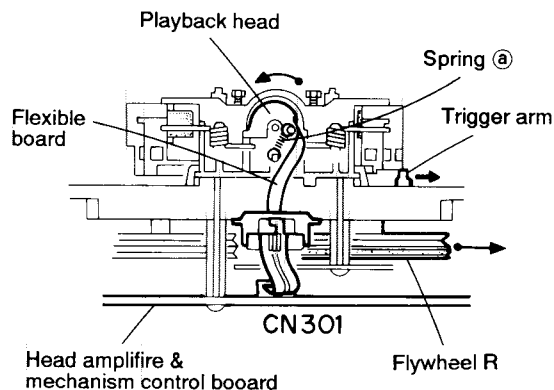
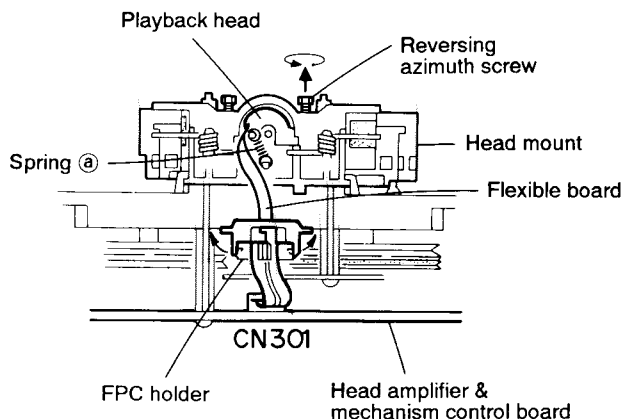

Fig.5-25 (Mechanism A side)
Fig.5-26 (Mechanism B side)
2. When the flywheel R is rotated in counterclockwise direction, the playback head will be turned in counterclockwise direction from the position in Fig. 5-25 to that in Fig. 5-26.
6. Remove the spring ① from behind the playback head.
1. Reassemble the playback head from the front of the head mount to the position as shown in Fig. 5-26.
3. Set the spring ① from behind the playback head.
4. Attach the flexible P.C. board to the chassis base, and fix it with the FPC holder as shown in Fig. 5-26.